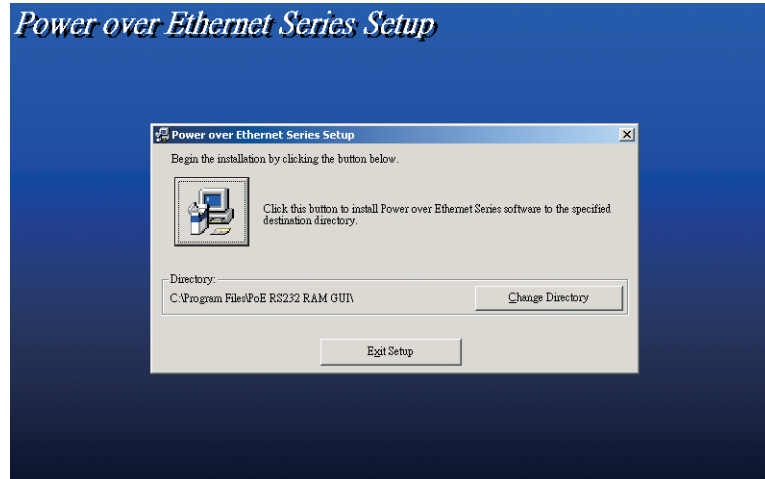

Figure 3-2.
5. Click the  button to start installation. See Figure 3-2.